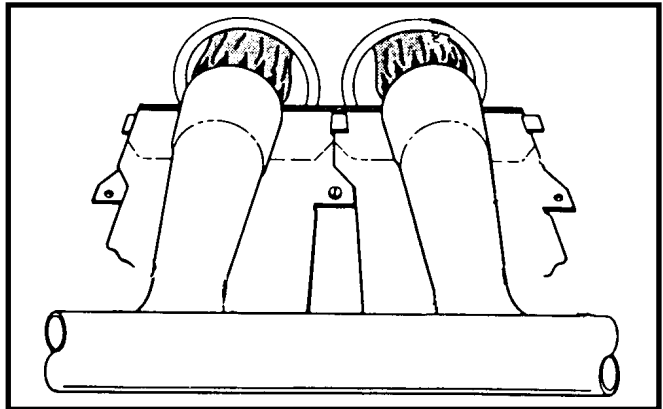

Figure 2. Burner Inspection
2. After installing the manifold assembly to the burner box, inspect the alignment of the burners with the heat exchanger tubes. The center of the burners should be aligned with the center of the tubes (see Figure 2).
7. After the flame ignites, visually inspect the burner assembly to ensure that the flame is drawn directly into the center of the heat exchanger tube as shown in Figure 2. The end of the flame will be out of sight around the bend of the heat exchanger tube. In a properly-adjusted burner assembly, the flame color should be blue with some light yellow streaks near the outer portions of the flame.